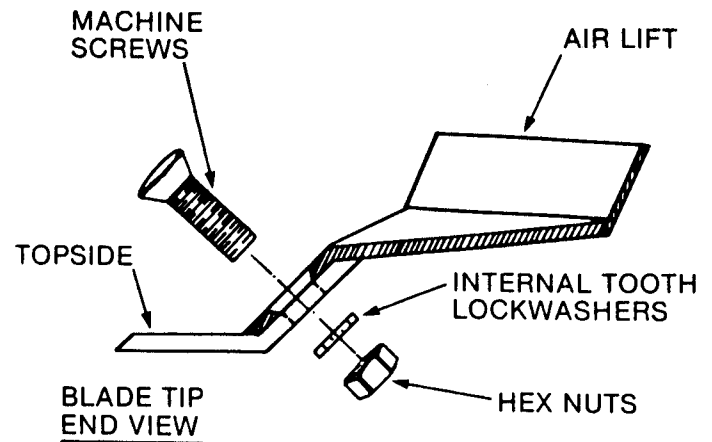

FIG. 1 - AIR LIFT INSTALLATION
**1. AIR LIFT INSTALLATION:** If the Riding Mower being prepared does not have air lifts installed on the blade tips, stand the Rider on its back bumpers and assemble the air lifts on the topside of the blade tips as shown in figure 1. **NOTE:** Tighten the retaining nuts 20-25 foot pounds torque to draw the bevelled heads of the machine screws firmly into the bevels of the air lift then retighten each to this same torque value. Return the Rider to its wheels, and continue the installation as follows.